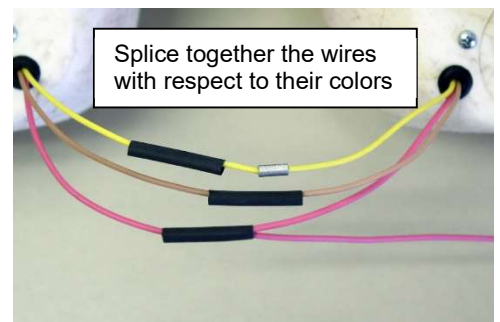

Figure 3
- 3.2. On each Inboard and Outboard light housing cells bottom surface, mark a mounting line 1 1/4 inches back from forward edge. (See Figure 3). On each Center light housing cells bottom surface, mark a mounting line 1 1/2 inches back from forward edge.
tubing over all wires on one side of the splice. Using the butt splices provided, insert the one color wire into each side and crimp the wires together. Then slide the heat shrink tubing over splice and shrink into place with a heat gun or other suitable heat source. (See Figure 3 as an example) Perform this operation for both left and right housings.